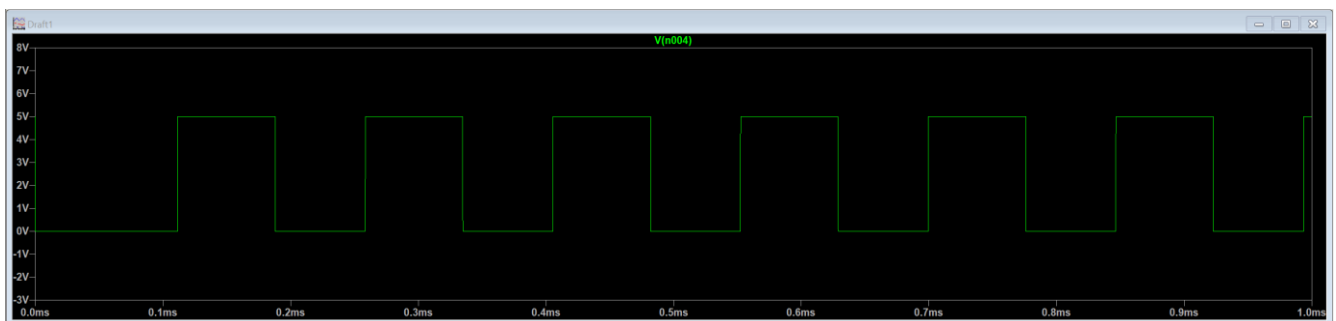

Fig. 1 Waveform LM555 timer
1. By Implementing LM555 in LTspice and generating the waveform by setting R2 value to $10\text{ k}\Omega$, clock length will be equal to $147\text{ }\mu\text{s}$ so frequency of LM555 will be 6803 Hz . Duty cycle can be calculate from the waveform. The duration in which the clock is on is equal to $76.5\text{ }\mu\text{s}$, so duty cycle is 52.04% . Waveform of LM555 timer is shown in figure 1.